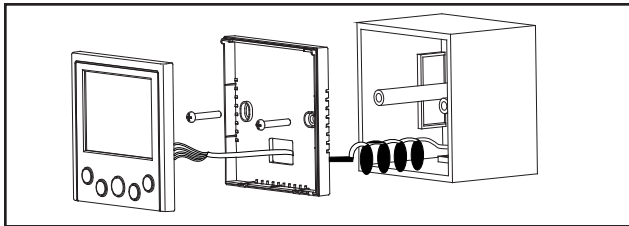

Figure 2. Installation
1. Adjust the length of the two plastic spacers as needed to allow the controller to be mounted flush with the wall. **NOTE** – Be sure to provide for future maintenance by allowing enough slack in the wiring to allow the controller to be removed from the wall if needed. See Figure 2.